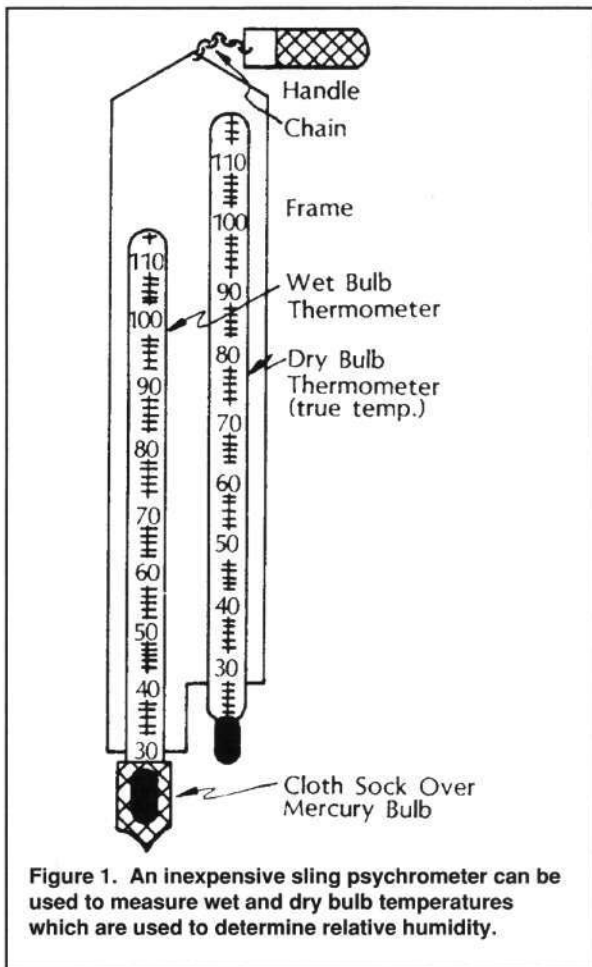

Figure 1. An inexpensive sling psychrometer can be used to measure wet and dry bulb temperatures which are used to determine relative humidity.
**Psychrometer.** A sling psychrometer consists of two thermometers suspended on a chain or sling. The sensing bulb on one thermometer is covered with an absorbent sock which is dipped in water prior to using (Figure 1). The two